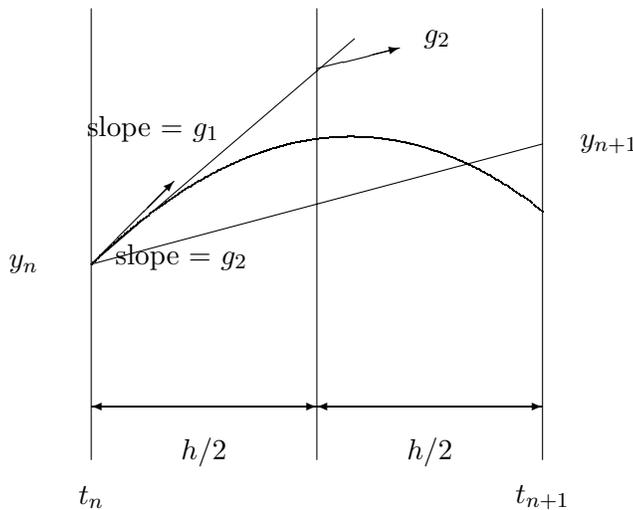

Figure 3.3: Runge's Midpoint Method
**Midpoint method** where the derivative is taken at midpoint rather than at the beginning of the step, Fig. 3.3.